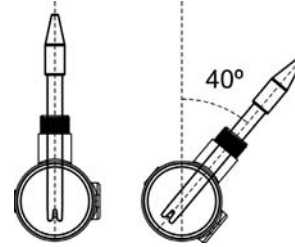

Fig. 3
4. Always install the pH/ORP probes vertically, or with a maximum inclination of 40° (Fig. 3).